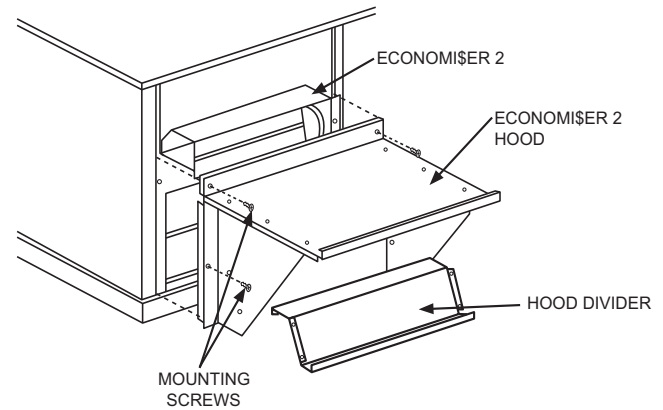

Fig. 8 — EconoMiSer® 2 Hood Installation
11. Install the EconoMiSer 2 hood over the EconoMiSer 2 assembly. Use screws provided (see Fig. 8).